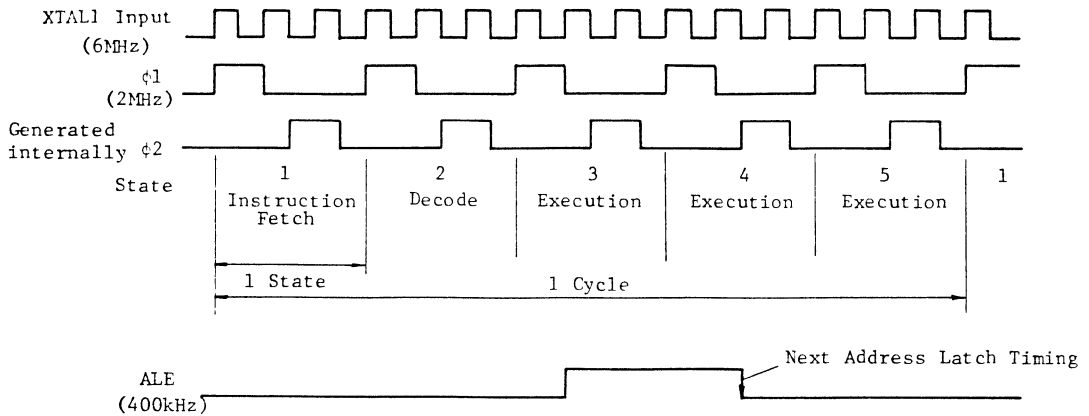

Fig.4 Instruction Cycle Timing
(1) Instruction Cycle
- . Fig.4 illustrates its relationship with the clock input to CPU.
- .  $\phi_2$  clock shown in Fig.4 is derived to outside by ENTO CLK instruction.
(2) External Memory Access Timing